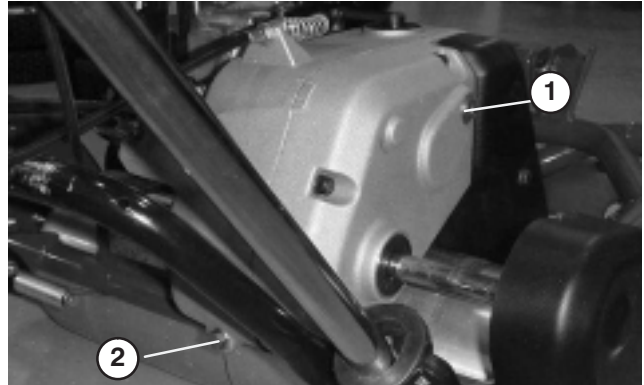

Figure 10
2. Remove the check/fill plug from the right-hand side of the transmission (Fig. 10). The oil level should come to the bottom of the fill hole. If it does not, add enough of the proper oil type until the level reaches the bottom of the fill hole.